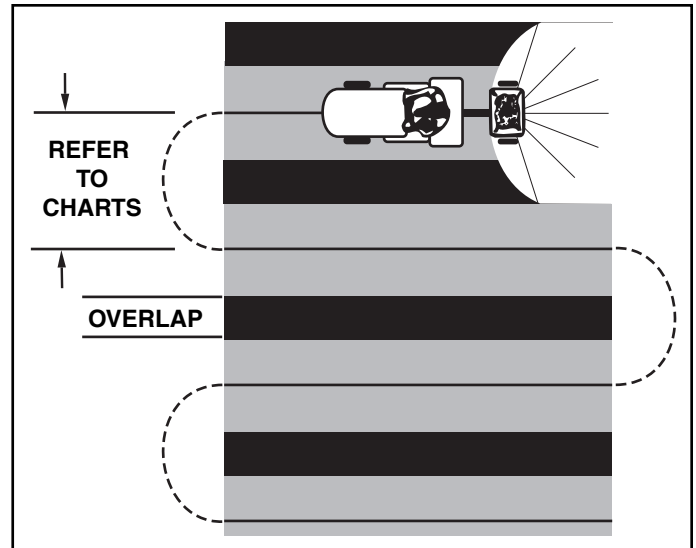

FIGURE 14
- To insure uniform coverage, make each pass so that the broadcast pattern slightly overlaps the pattern from the previous pass as shown in figure 14. The approximate broadcast widths for different materials are shown in the application chart on this page.